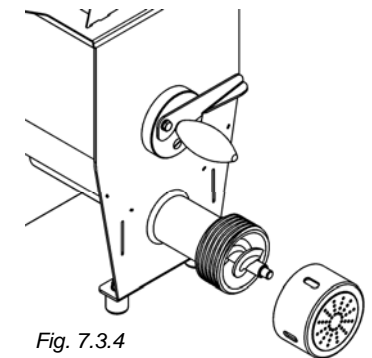

Fig. 7.3.4
- Fit the extruder to the locking ring (fig. 7.3.4)